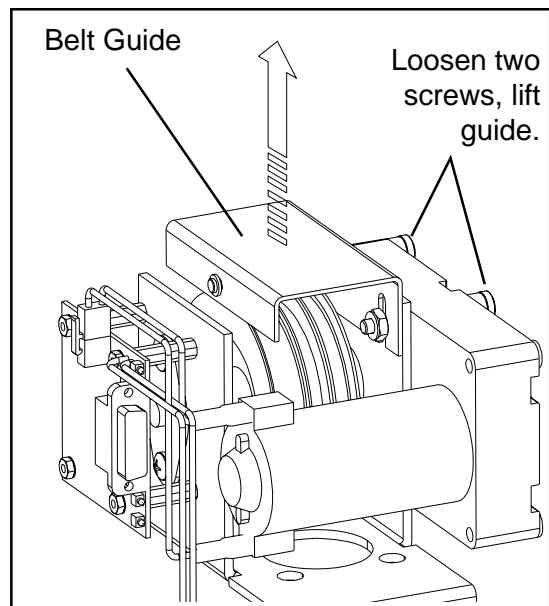

Figure 12a - Cable Guide must be positioned as shown .
2. Remove belt guide by loosening the top two motor drive mounting screws. See Figure 12a